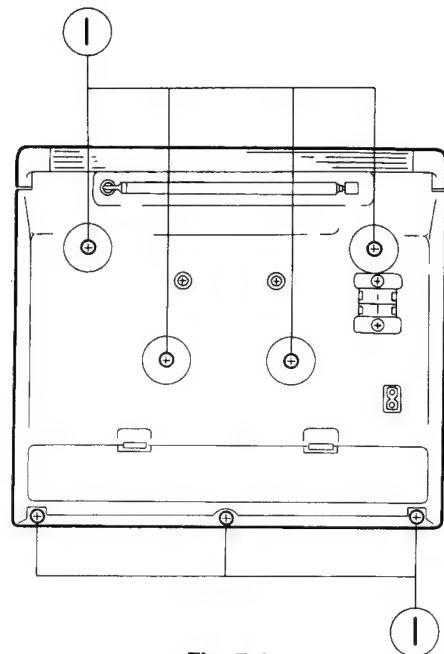

Fig. 5-1
■ Front panel assembly (Refer to Fig. 5-1, 5-2.)
1. Remove seven screws ① from the rear side of the set.
2. Remove one screw ② from each side of the set (two screws in total).